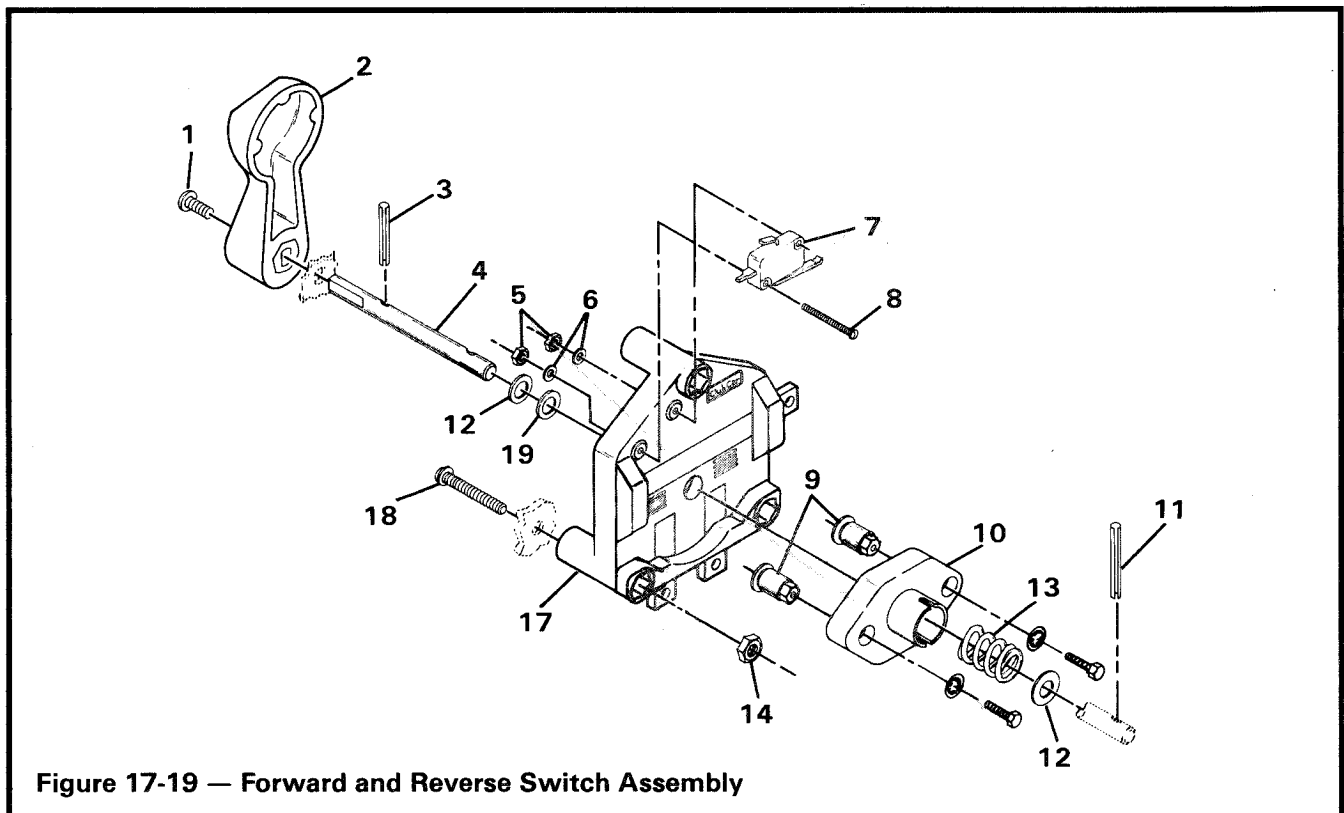

Figure 17-19 — Forward and Reverse Switch Assembly
## FORWARD AND REVERSE SWITCH (Figure 17-19)
1. Remove F&R handle (2) by removing screw (1) (Figure 17-19).
2. Remove screws (18) and nuts (14) that mount the F&R to the body.